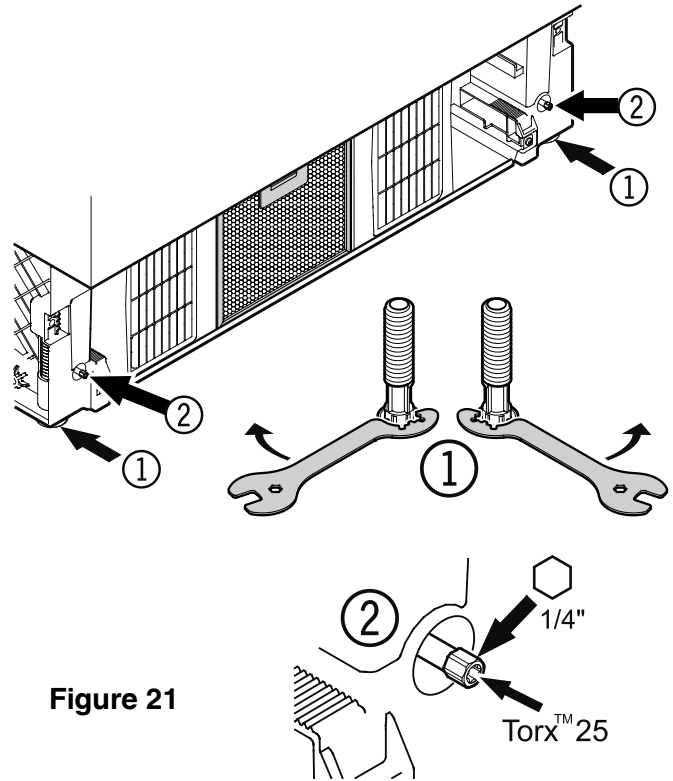

Figure 21
## Leveling the Appliance - Figure 21
1. Adjust the height of the appliance at the front by twisting the leveling feet (1). Use the open-ended spanner provided.
Turn the spanner counterclockwise to raise the appliance front and clockwise to lower it. Position the spanner accordingly (**Figure 21 - (1)**).
2. Adjust the height of the appliance at the rear by turning the adjusting bolts (2). Use a 1/4" box spanner or the Torx 25 wrench provided.
3. Rotate leveling feet (1) until firmly in place against the floor.
To prevent the appliance from tipping forward the leveling feet (1) (**Figure 21**) must have contact with the floor.